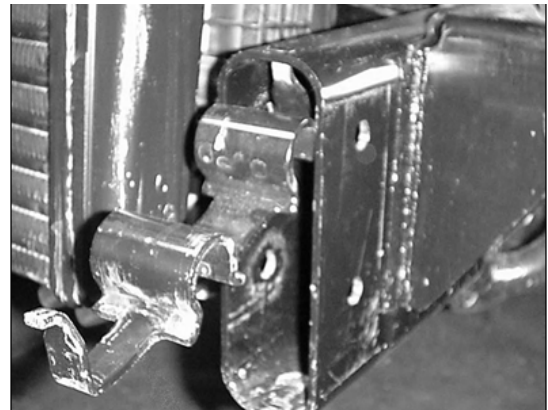

Figure 2
**4. Use a large screwdriver to pry the anti-crush spacer out of the front of the frame rail; it is not necessary to completely remove it from the frame. (Figure 2)**